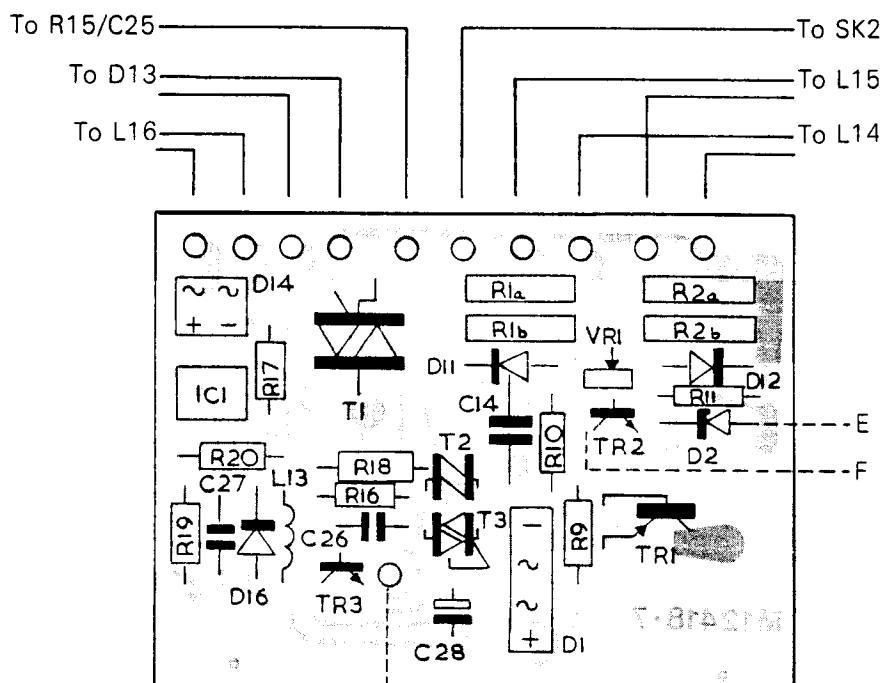

Fig. 14 TO ANTENNA
- (a) R10, Tr2, Vr1, D2 and R11 removed from the clamp/detector board. D15, 24V Zener Stock No. D4824VA added. This fixes the clamping level. When carrying out this modification D15 should be connected as shown in the circuit diagram ISS 2 and may be accommodated using the vacated holes marked as E and F in Fig. 14. In some cases D15 is made up from 2 12V zeners and either a link or an ordinary diode.